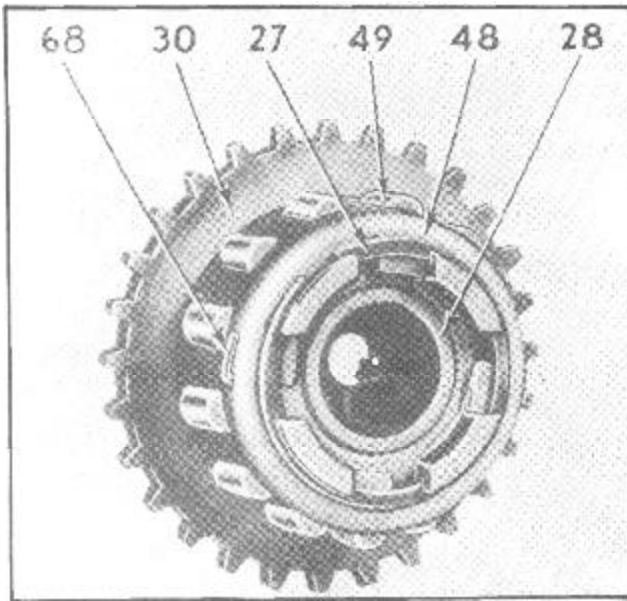

Figure 33--Free-Wheel Cam Assembly
1. Remove free-wheel cam roller retainer snap ring (27), Figure 33, from the free-wheel cam roller retainer (48).
2. Pull roller retainer (48) partly off the cam and, with pliers, pull the end of one spring (68), out of the hub of the cam (30), then pull the retainer further off the hub and pull the second spring out of the hub of the cam.
3. Mainshaft pilot bushing (28) is a light press fit in the cam and can be replaced separately.